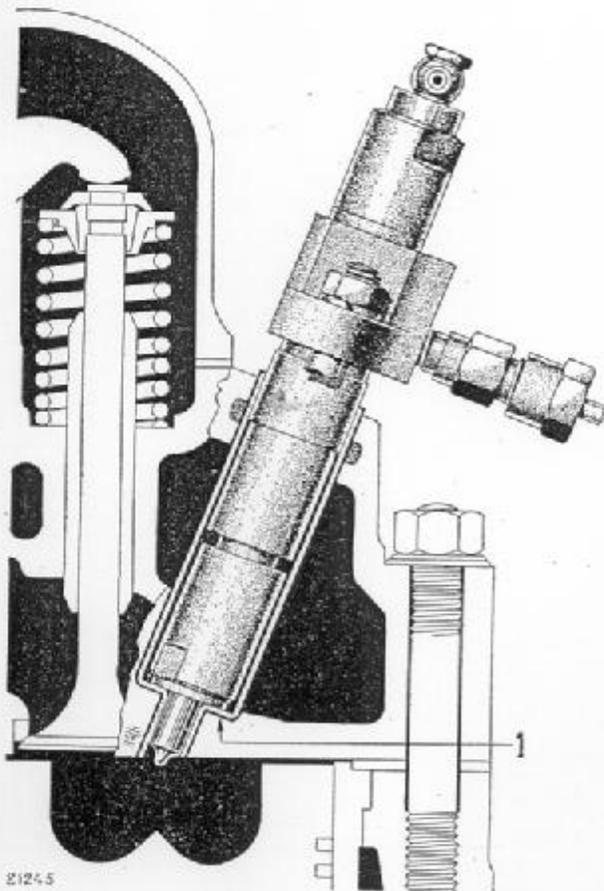

Fig. 41. An injector in position on the engine.
- Rotate the engine a few times with the starter motor so that the copper sleeve (1, Fig. 41) is blown clean. Make sure that the stop control is pulled out. Check that the contact surface between the injector and the copper sleeve in the bottom is free from dirt and undamaged.